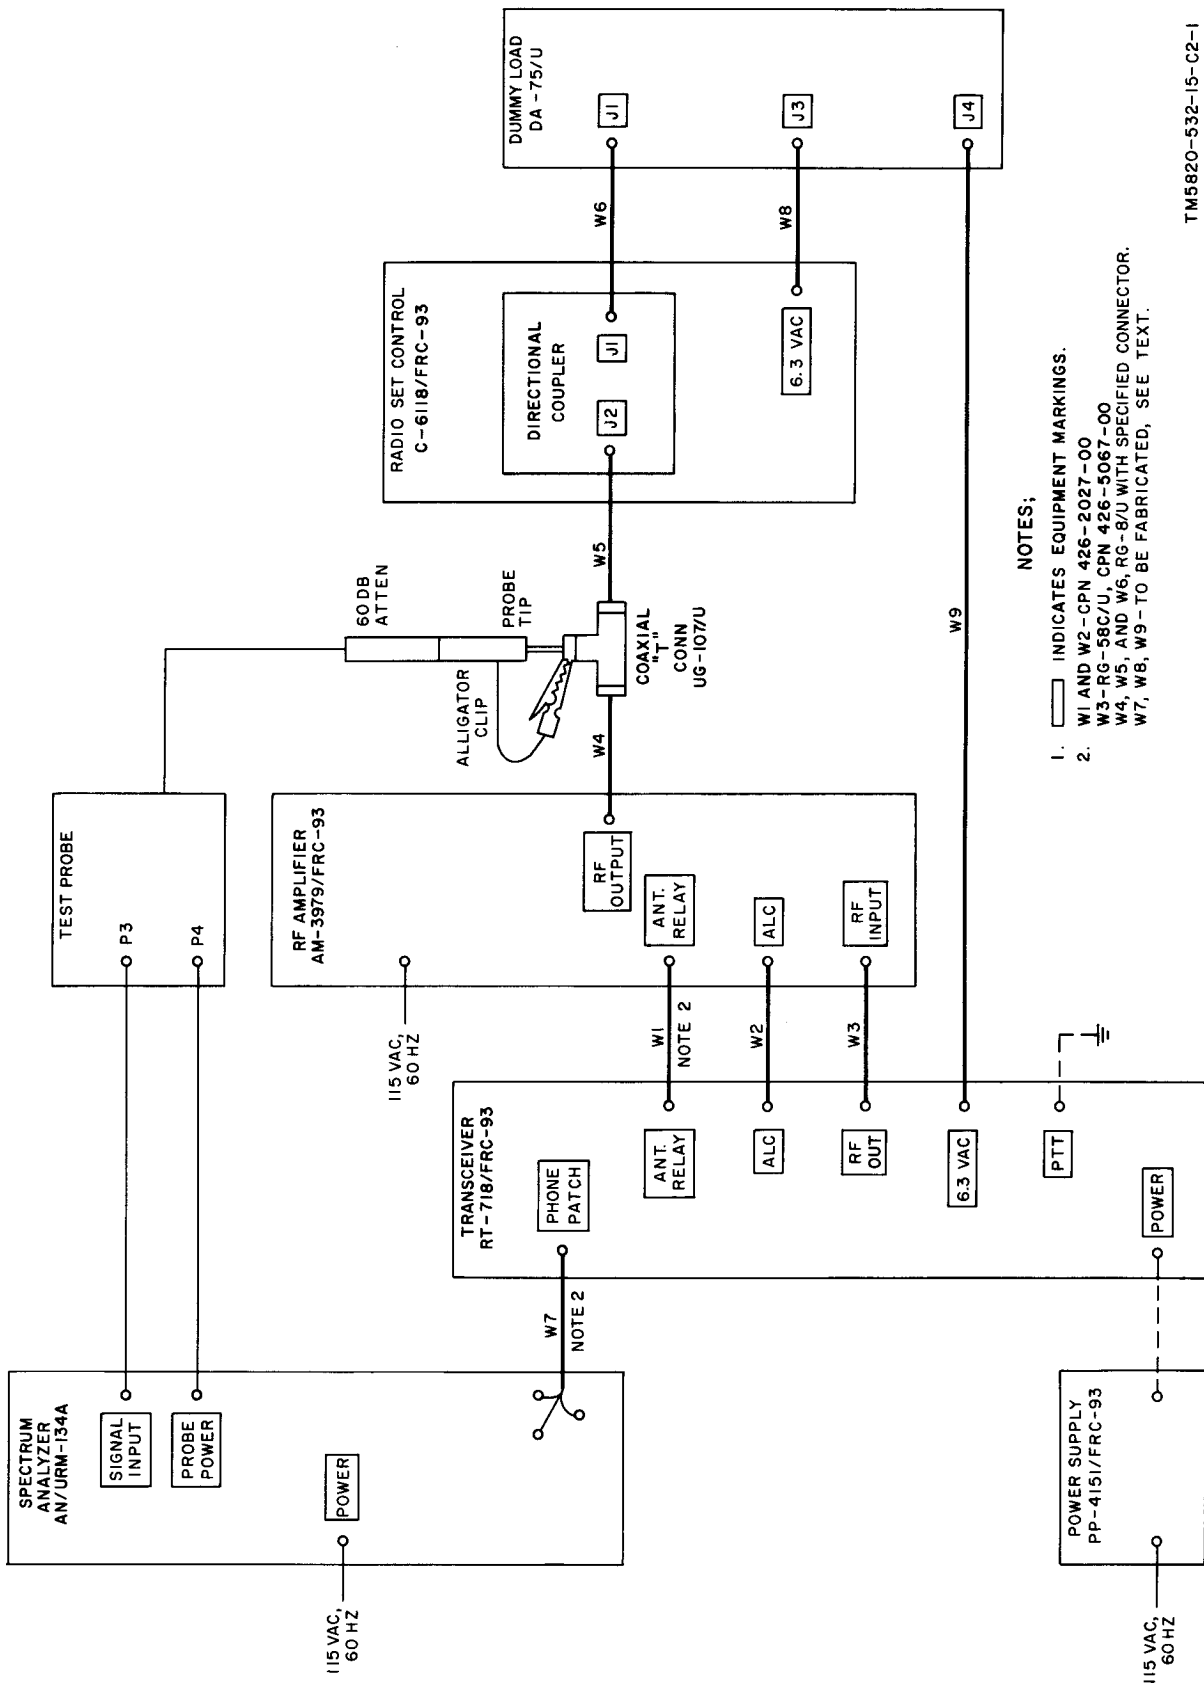

Figure 10-1. Amplifier, RF AM-3979/FRC-93, test setup.
Tests will be initiated under the conditions listed below and as shown in figure 10-1. The following tests will be performed consecutively. Testing will be simplified if the connections listed below are made initially and modifications are made as required for the individual tests.
(1) Connect the equipment as outlined in paragraph 10-4 and as shown in figure 10-1.
(2) Adjust the amplifier and transceiver for 3.9-MHz operating frequency as outlined in paragraphs 2.1, 2.2, and 2.3.
(3) Set the transceiver PLATE-GRID-ALC switch at ALC.
(4) Set the dummy load REMOTE-DUMMY LOAD switch at DUMMY LOAD.
(5) Set the radio set control WATT-METER switch at FORWARD 2000.
(6) Set spectrum analyzer frequency output A for 1.0-kHz signal and frequency output B for 1.9-kHz signal. Set the output level for minimum.
(2) Set the transceiver SSB-CW switch to SSB.
(3) Adjust the amplifier and transceiver for 3.9-MHz operating frequency as outlined in paragraphs 2.1, 2.2, and 2.3.
(4) Set the transceiver PLATE-GRID-ALC switch to ALC.
(5) Set the dummy load REMOTE-DUMMY LOAD switch to DUMMY LOAD.
(6) With the spectrum analyzer frequency output A at 1.0 kHz and frequency output B at 1.9 kHz signal, set the output level for minimum.
(7) Adjust the spectrum analyzer two-tone generator control until the ALC threshold is reached as observed on the transceiver meter.
(8) Adjust the SWEEP RATE and MAIN TUNING for spectrum display centered at 3.9 MHz.
(9) Set the IF ATTEN to 20 DB. Adjust the INPUT ATTENUATOR switches to bring the highest pip on the calibrated screen to slightly above 0 db. Adjust the GAIN control to bring the highest pip to precisely 0 db.
(10) Measure and record the third and fifth order harmonic distortion products. Distortion amplitude shall not be less than 30 db below input level.
(11) Remove the PJ-068 connector from the PHONE PATCH connector. Connect a short-circuited PJ-068 connector to the PHONE PATCH connector. Measure and record noise level. Noise amplitude shall not be less than 40 db below input level.
Add figure 10-1 at the end of section X: